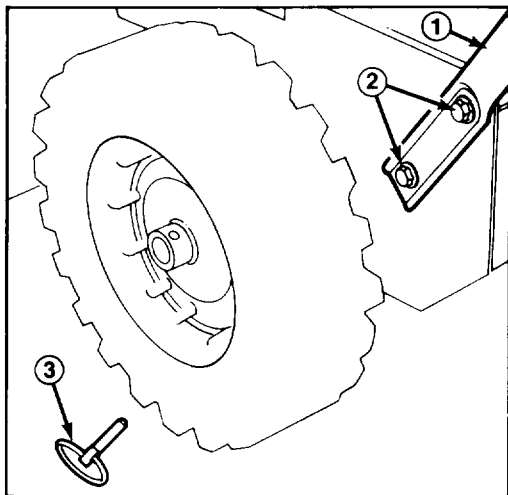

Figure 1
2. Position left handle on side of unit, align handle mount holes with holes in side plate and secure with two capscrews and pyramidal washers until finger tight (Fig. 1). Repeat procedure on right side. Make sure handles are at same height (parallel) before tightening handle screws on both sides of unit.